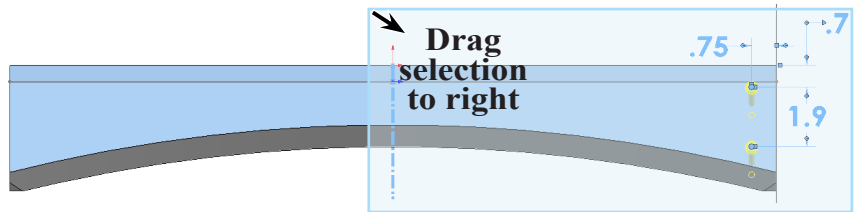

Fig. 31
Step 13. Drag a selection around all geometry, Fig. 31.